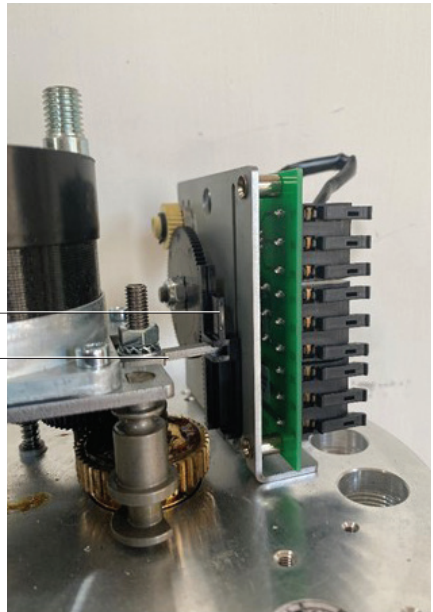

Fig. 7
- Couple the fixed feedback bar directly to the driving rod of main actuator spindle. See Fig. 7 "Auxiliary Travel Switch Feedback Arrangement (1-6 kN) (225 lbf - 1349 lbf)" for product orientation
- Slide switch S4 first onto the switch retaining pins ensuring that orientation is as shown in Fig. 7
- Slide switch S5 onto the switch retaining pins ensuring that orientation is as shown in Fig. 7